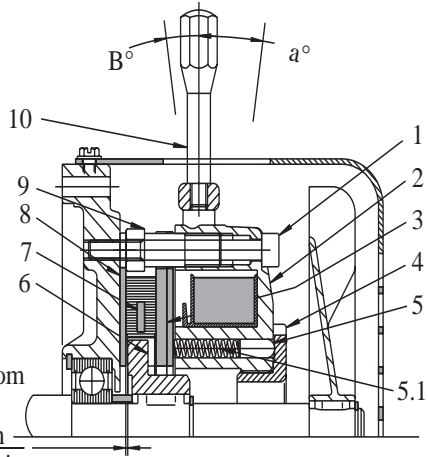

Figure 1
- The KEBCO COMBISTOP, as shown in Figure 1, is an electromagnetically released, spring set brake.
- The brake produces torque by squeezing the rotating friction disc (7) between the stationary mounting surface and a spring-loaded armature (3).
- The armature is pulled away from the friction disc by the magnet coil (2) when the proper DC voltage is applied.
- The necessary axial movement of the friction disc is provided by hub (6) splines.